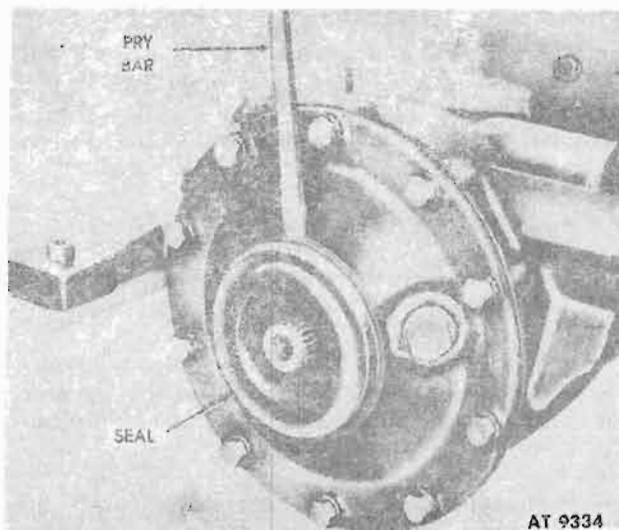

Figure 12-3. Removing Differential Case Side Gear Bearing Seal.
d. Pry off side gear bearing seals from differential case (fig. 12-3).
Page 12-3. Figure 12-3 is superseded as follows: